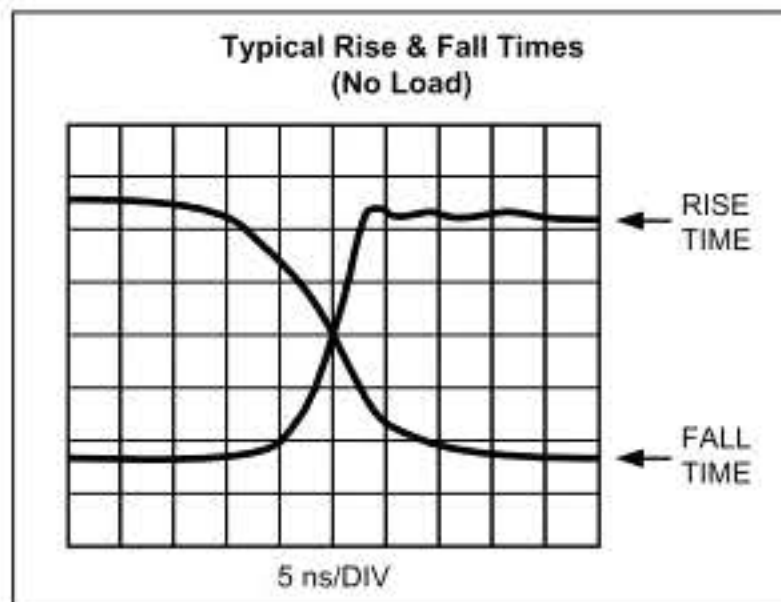
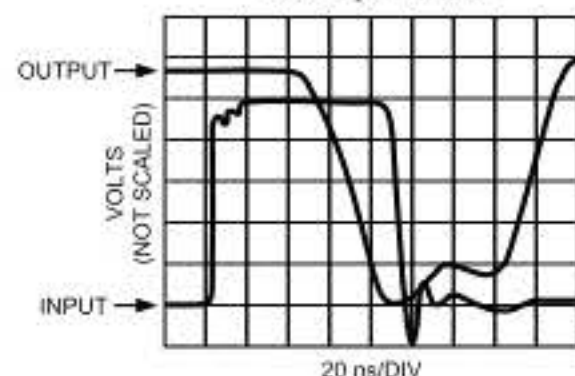
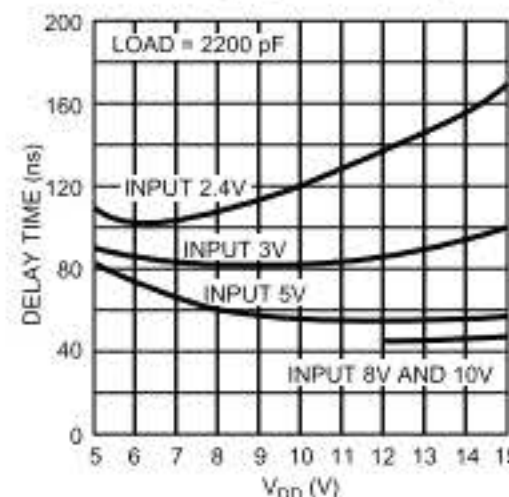
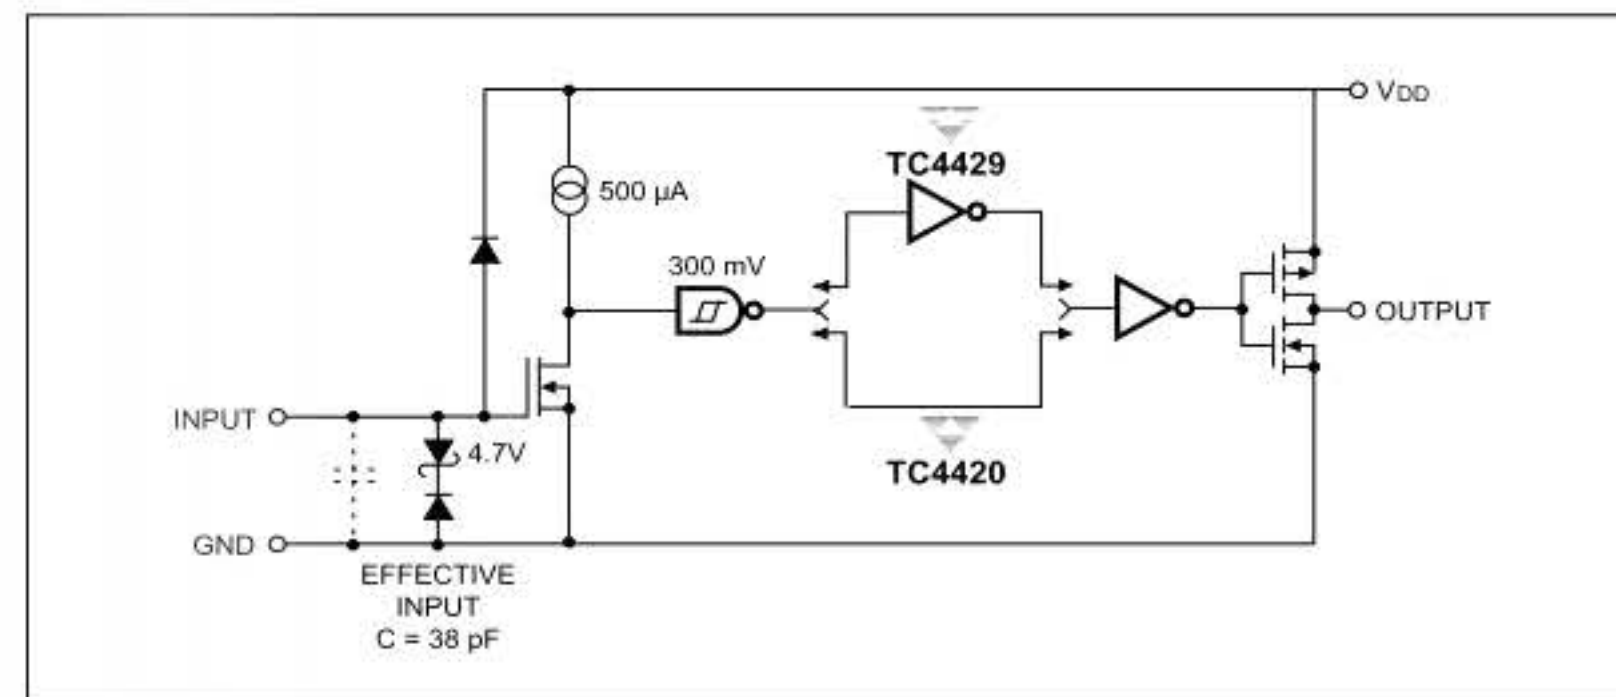

Figure 2
Figure 6
Figure 8
Figure 11
1. The rise and fall times are not equal creating a small asymmetry in the output waveform. (See figures 2, 6 and 7.) This is due to having a P-channel device source current and an N-channel sink current from the load. (See figure 11.) P-channels do not perform as well as N types, so the input of the TC4420/4429 we have made the P larger to compensate. This does not make the P equal to the N in dynamic performance, only in static $R_{DS(ON)}$. This difference is most notable at higher loads. (See Figure 6.) At light loads the P actually outperforms the N in speed. (See Figure 2.)
- Rise and fall times also determine the minimum pulse width in that if an input pulse has a width that is less than the sum of the rise and fall times the output cannot make a full transition. If carried to the extreme no output pulse will occur. At light loads typical minimum pulse widths would be in the 35 ns region. Figure 6 is an example of typical rise and fall times and minimum pulse width when driving a 3300 pF load.
Delay time is a function of input amplitude, supply voltage, and temperature. Figures 8, 9 & 10 show the effects of these parameters on delay time. Little can be done to lower the delay except for keeping the device temperature low and keeping the input amplitude above 5V. Please note that slow rising input signals can give the appearance of long delay times. This comes from the fact that the trip point of the Schmitt trigger input (about 1.5 volts) can often be higher than the 10% point in the waveform. In the specifications the times are measured from the 10 and 90 percent points as is industry practice. Figures 6 and 7 show typical performance. Note that the input waveform is shifted by 1/2 division on the vertical axis for purposes of clarity.
As we have mentioned before the TC4420/4429 has Schmitt trigger inputs. The hysteresis provided by the Schmitt action is measured with conditions static (DC) for the data sheet, and can change substantially when driven by a pulse. (For an explanation of how the input section works see the section entitled "Input Effects on Quiescent Current.") The input is capacitive as the input signal is driving a MOSFET gate. (See Figure 11.) It therefore has the characteristic Miller capacitance from drain to gate, as well as the gate to source capacitance. The device works most effectively when driven by a relatively low impedance source such as a CMOS or TTL buffer.
Since the input threshold is set by the input MOSFET's threshold (Figure 11), the trip point changes with temperature at the rate of approximately -5 mV/°C. For this reason, any input waveform that has slow rise times, such as open collector TTL, can exhibit a change in pulse width with a change in temperature at the output of the TC4420/4429. In applications where exact reproduction of pulse width from input to output is important, fast rise and fall times are important.
The state of the input signal changes the quiescent current draw of the TC4420/4429. The reason for this can be seen in Figure 11 which shows the input signal driving a MOSFET whose drain is attached to a current source of 500 μ A. The drain is connected to an inverter with 300 mV of hysteresis.
During the transition between the output states the P channel and N channel transistors can be on simultaneously. Although this happens for only a few nanoseconds, this additional power that is dissipated can be significant at frequencies above 1 MHz at 100 pF and above 250 kHz at 10,000 pF. (See Figures 11 and 27.)